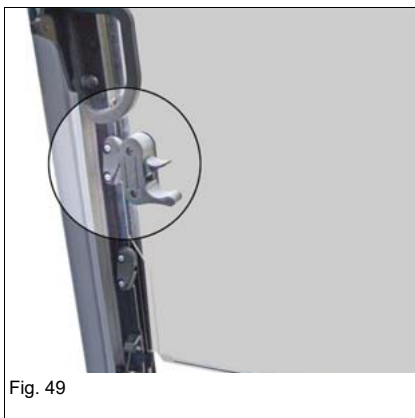

Fig. 49
- ▶ The lower front window must be fully open when the entire front window is opened or closed (*Fig. 49*).